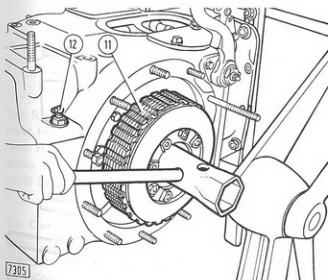
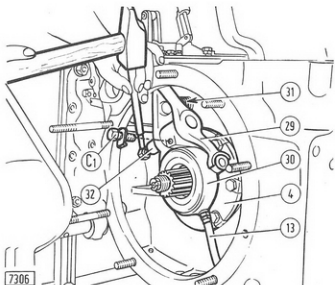

Fig. 123 - Removing the Steering Clutch Locking Nut with the Bevel Drive Case placed on Rotary Stand Part No. 290086
Fig. 124 - Removing the Steering Clutch Sleeve Fork Pivot Pin using Puller Screw and Punch
Place the bevel pinion case with attached steering clutches on rotary stand Part No. **290086** (see Fig. 123), withdraw steering clutches (11) with the associated fork and release bearing assembly, withdrawing pivot pin (32) as illustrated in Fig. 124.